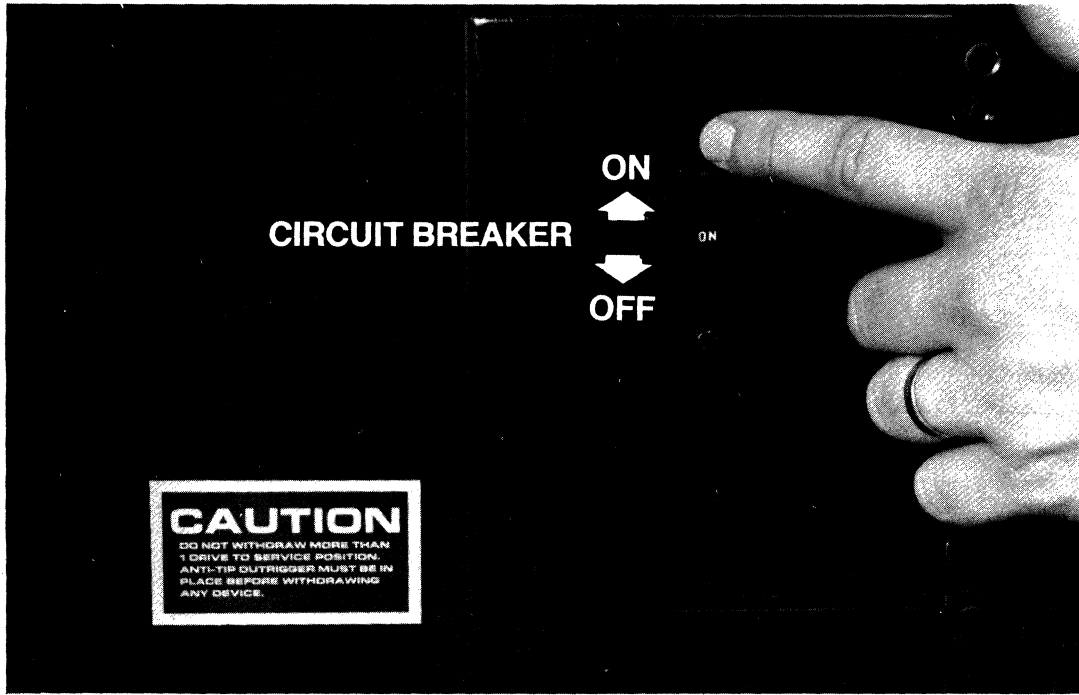

Figure 3-1. Circuit Breaker
1. Open the door on the front of the unit and make sure the MAIN AC circuit breaker is in the ON position (Figure 3-1).